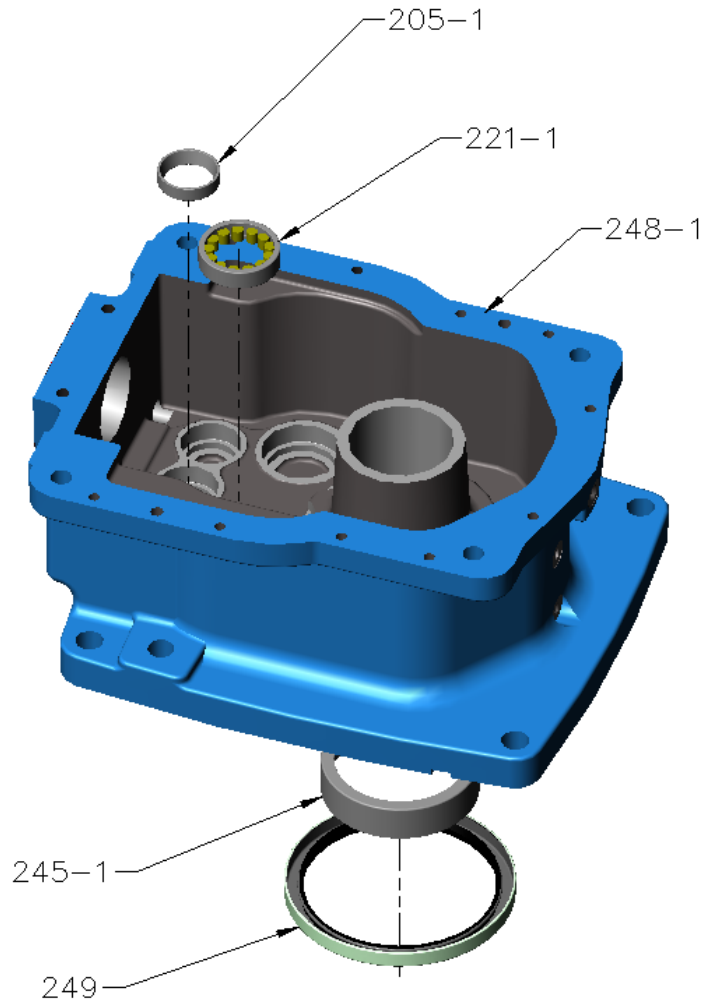

Figure 10 – Case Bottom
N. At case bottom [248-1] remove following items (refer Figure 10):